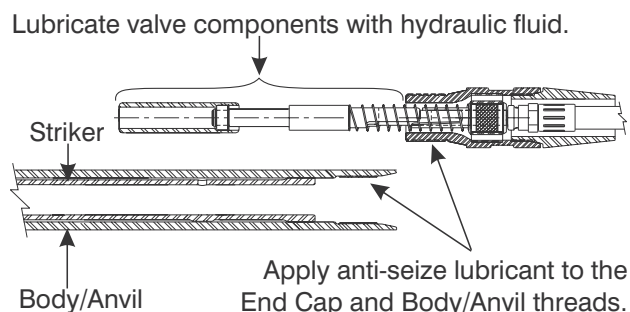

Figure 9-49. Prepare Body/Anvil and Tail Assembly for Assembly.
7. Apply anti-seize thread lubricant sparingly to the threads of the End Cap (8) and Body/Anvil (1). See Figure 9-49.
8. Coat the valve assembly components with hydraulic fluid, as shown in Figure 9-49.